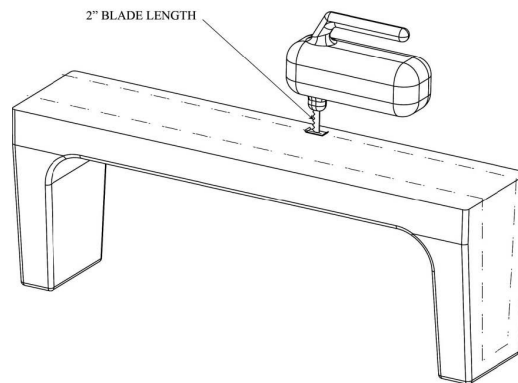

FIGURE 5
8. Cut the CleanCut Step to fit the cut-out tub opening using a jigsaw (Figure 5). Fasten Velcro-stripping on both sides of the jigsaw to prevent making any unwanted marks on the CleanCut Step. It is important that a 2" blade is used to cut out the CleanCut Step so as to prevent accidentally cutting through the top of the CleanCut Step. Snap off any excess length on the stock jigsaw blade beyond 2".